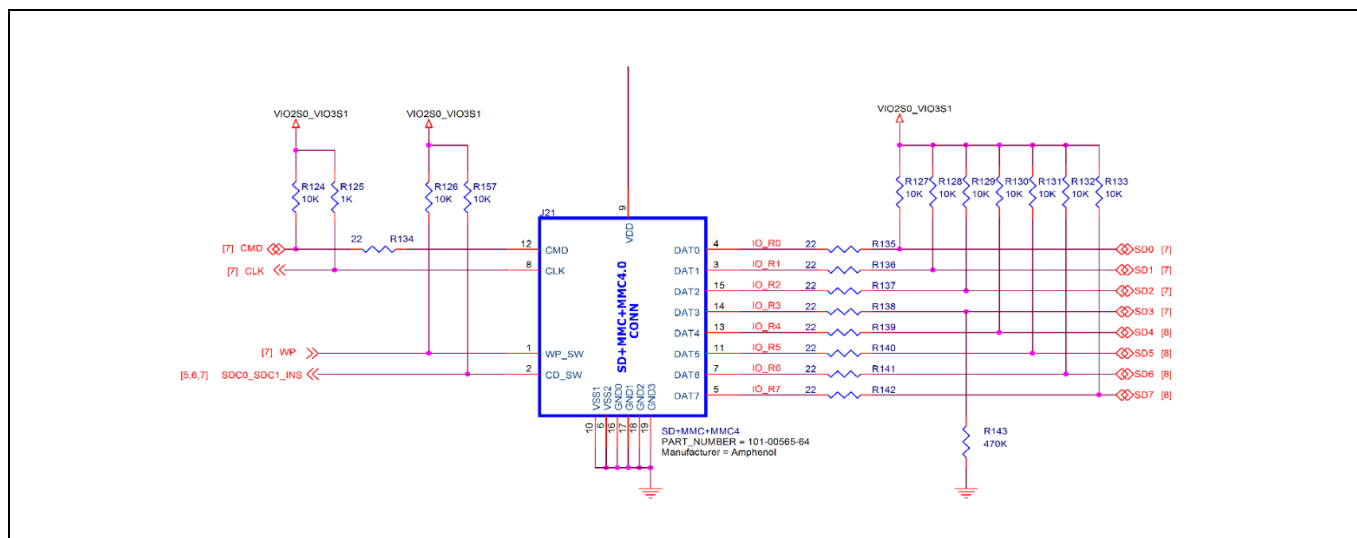

Figure 39 SD/MMC card circuit
- In the case of SD card, V_{DD} should be tied to 3.3 V regardless of the I/O voltage used on the other SD lines, as illustrated in Figure 39.
Figure 39 and Figure 40 show different implementation of the SD/MMC cards and eMMC devices.